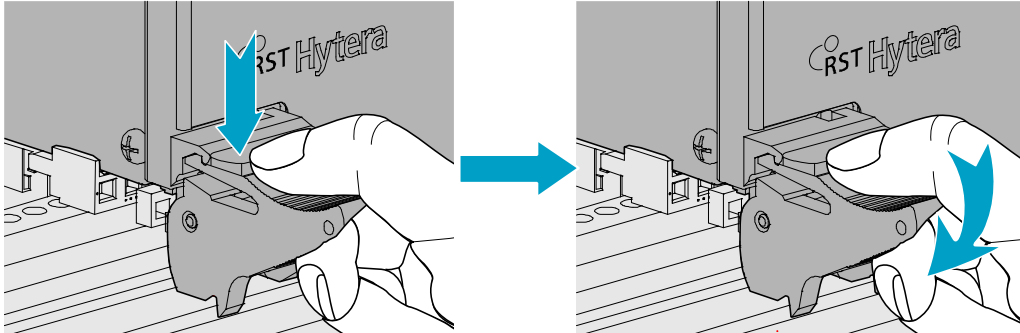

Figure 3-9 Loosening the Ejector
Step 2 Disassemble the side doors as shown in Figure 3-9.
1. Loosen the two ejectors as shown in Figure 3-9.